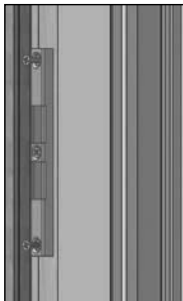

FIG. 20
- C) Sliding patio doors: After the operating panel and keeper are adjusted to the optimal position, apply the supplied #10 x 1-1/4" screws through the top and bottom holes of the keeper. Pre-drill the holes using a 1/8" bit prior to assembly. (Fig. 20)